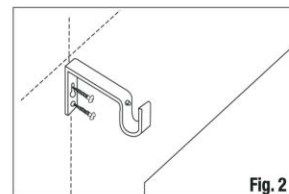

Fig. 2
5. Using the wall plugs and screws provided fix the brackets securely (Fig. 2). Alternative wall fixings should be used where necessary.